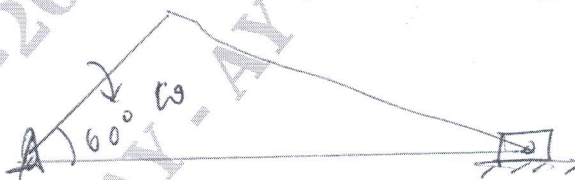

Fig. Q3 (a)
- 3 a. In a slider crank mechanism, the crank $OB = 30$ mm and the connecting rod $BC = 120$ mm the crank rotates at a uniform speed of 300 rpm clock wise, for a crank position in Fig. Q3 (a). Find (i) Velocity of position C and angular velocity of connecting rod BC (ii) Acceleration of piston C and angular acceleration of connecting rod BC.